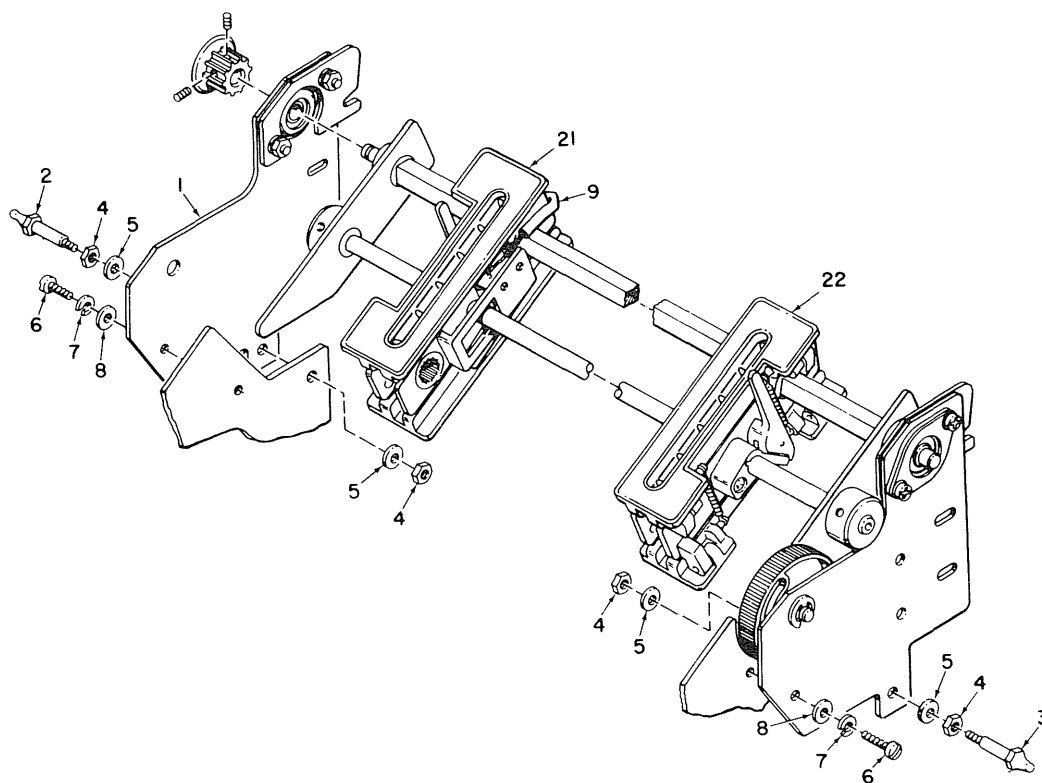

Figure 3-8C. TRACTOR DRIVE AND PIN FEED ASSEMBLY (26-1152)
3.13 TRACTOR DRIVE AND PIN FEED ASSEMBLIES (26-1152 — Figure 3-8C)